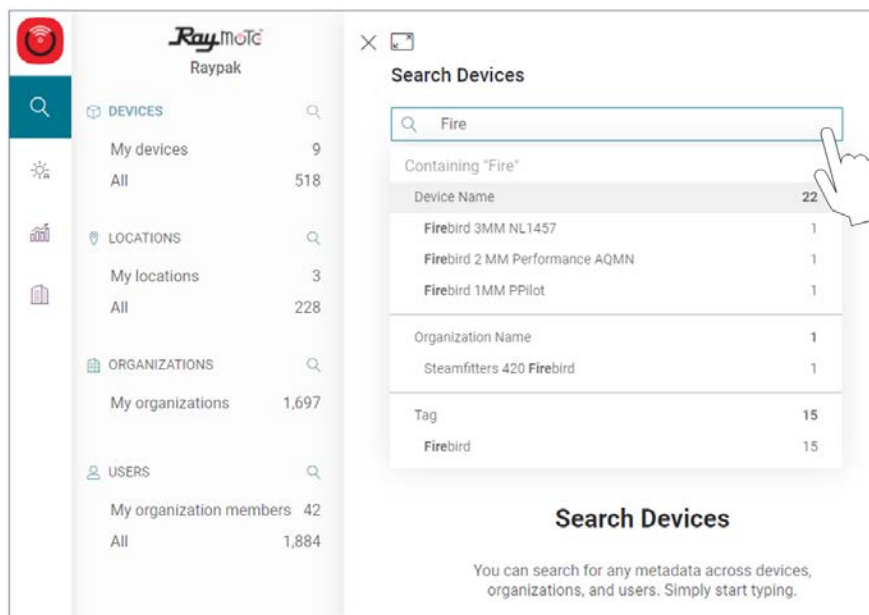

Figure 46. Search Functions
2. Select the search desired search category see **Figure 46**.